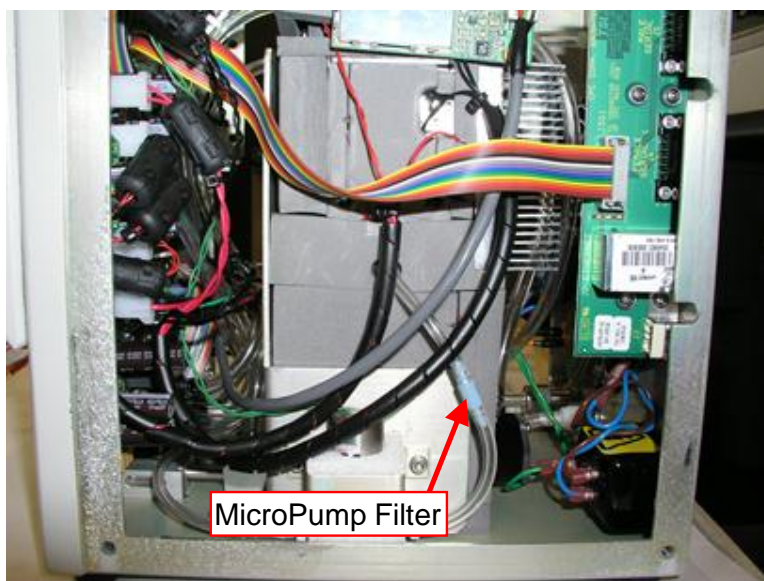

Figure 8-3
3. Find the filter shown in Figure 8-3.